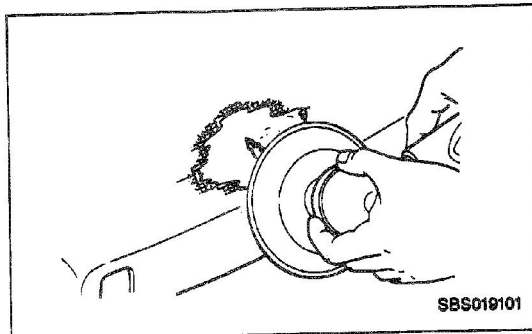

Figure 12—Removing Paint Surrounding Damage
2. With a random orbit sander fitted with a #180 grit disc, taper the paint film surrounding the repair area to be filled (Figure 12). The repair material should not overlap the painted surface. Wipe with a clean dry rag and blow off with an air hose.